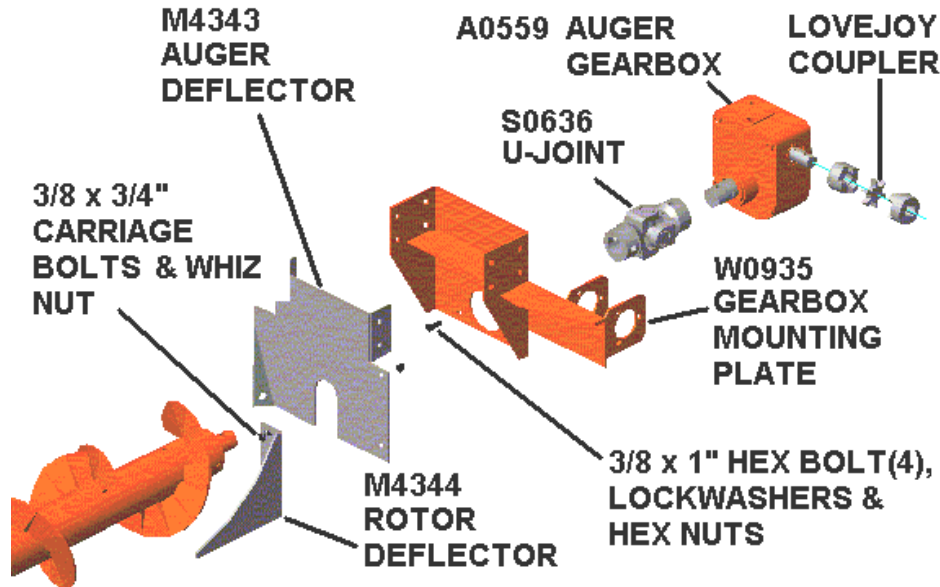

FIGURE 20
- Slide the assembly onto the outer auger shaft (outer end of auger has double flighting). Assemble (2) Wall cleaner casting halves with blades to the auger shaft using a 1/2" x 4-1/2" hex bolt and hex lock nut.
- Assemble gearbox to the gearbox mount plate with (4) 3/8 x 1" hex bolts and lock washers. See Figure 20.